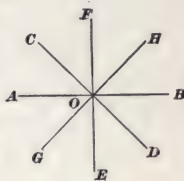

FIG. 15.
**34.** Also, if through a given point any number of straight lines be drawn, the sum of all the angles formed about the points of intersection equals four right angles, or  $360^\circ$ . Thus, in Fig. 15, angles  $HOF + FOC + COA + AOG + GOE + EOD + DOB + BOH = 4$  right angles, or  $360^\circ$ .